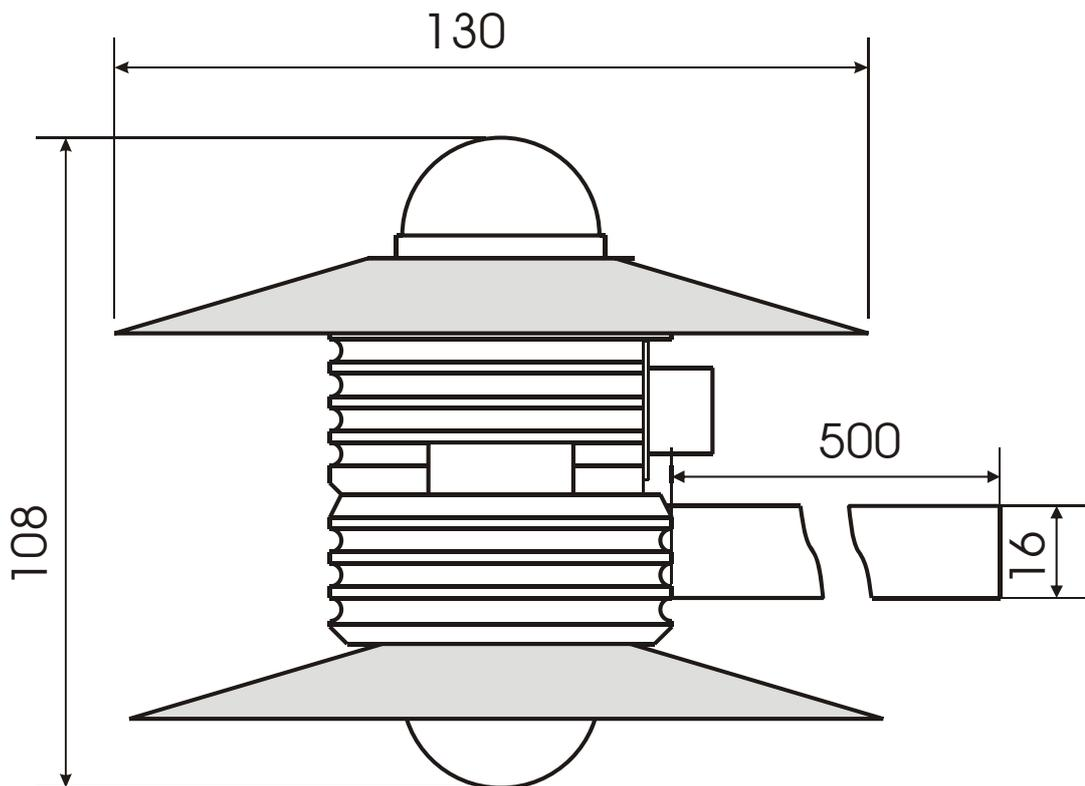

Figure 1
The LP PYRA 06 (see figure 1) albedometer measures the net global radiation, as well as the albedo of grounds (albedo is the ratio between diffuse radiation from a determined surface and the quantity of radiation that arrives on the surface).
- The LP PYRA 06 pyranometer is provided with a spirit level for carrying out an accurate horizontal leveling. Mounting can be made using the rod provided with the instrument (see Fig. 1).
Dimensions:	figure 1